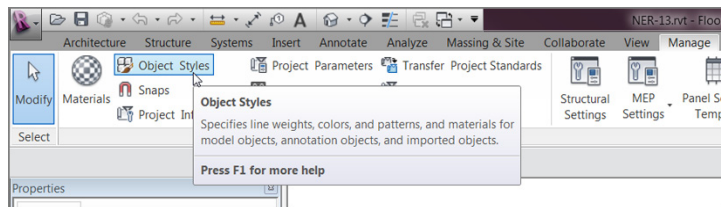

FIGURE 12.1: Object Styles is located at left on the Manage tab.
2. Notice that the perimeters of the walls and the roof are extremely heavy in contrast to the finer lines that divide the submaterials. This is what you'll change. On the Settings panel of the Manage tab, click the Object Styles button at left on the Ribbon, as shown in Figure 12.1.